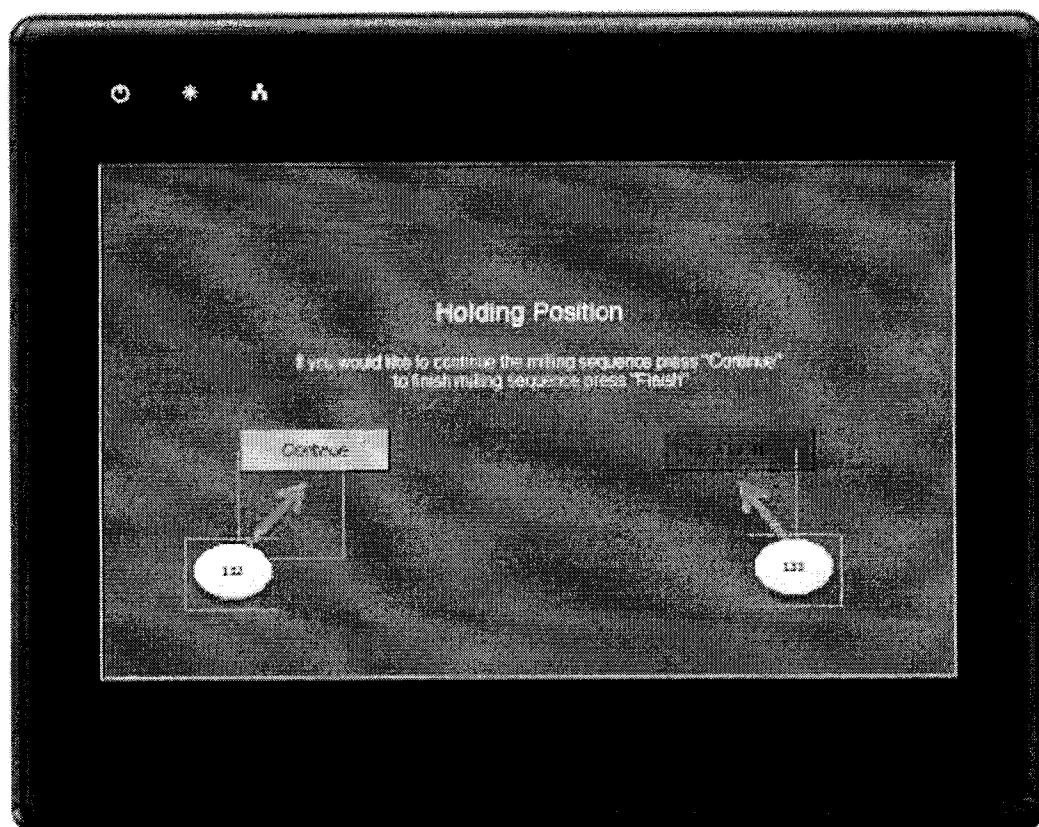

Figure 15
The detailed description makes no reference to the elements of Figures 15 to 22:
- the detailed description makes reference to Fig. 15 only in par. [0377], and without any reference to the elements in the figure;